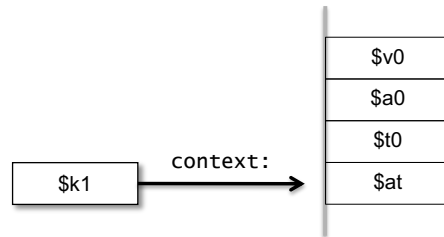

Figure 7. Register \$k1 points permanently to the memory area where the context is saved.
An important point here is that the use of registers \$k0 and \$k1 is forbidden to user programs, so they don't need to be saved as part of the user context. We will be using \$k1 as a pointer to the context area in memory, as shown in Figure 7. The handler also uses register \$k0 to preserve the return address to the user program, used at the end of the handler by instruction jr \$k0.
- At the beginning of the handler code, just after the comment “Save the user program context”, write the instructions that save the four registers to context, (see Figure 7).